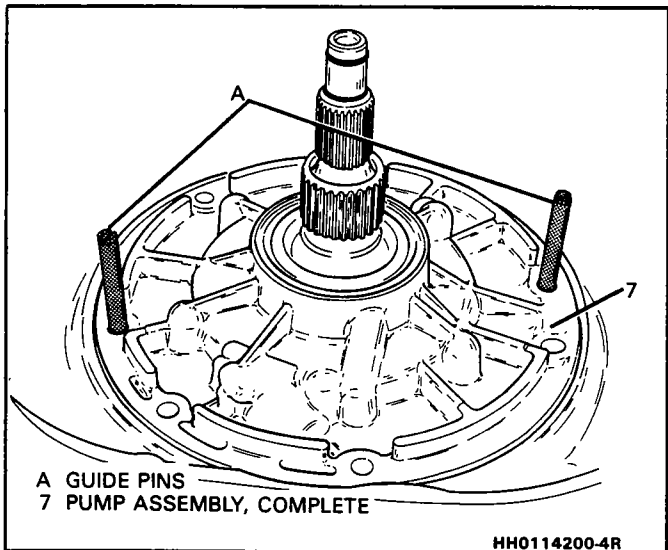

Figure 108 Installing Pump Assembly
**Install or Connect (Figure 108)**